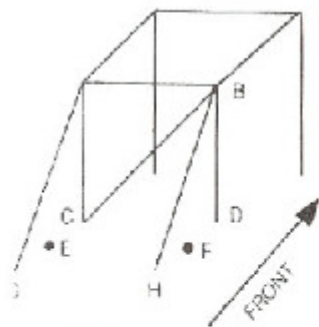

Fig 1.
30: Roll Cages (refer Fig.1 page 32)
- v. Diagonal bracing **within the main hoop** (refer fig.1). A diagonal brace is not required in a space-frame construction provided that the frame construction exceeds the requirement of these Rules.
- vi. CLARIFICATION of DIAGONAL BRACING (refer fig.1).